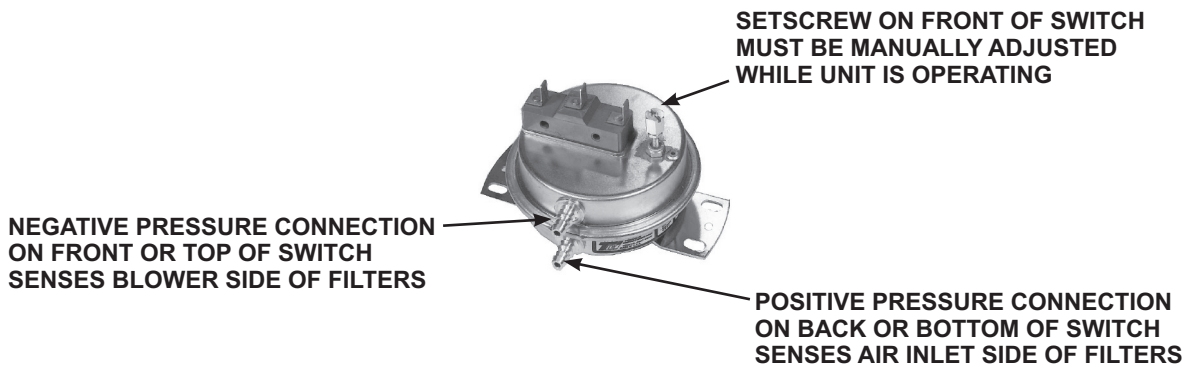

Figure 33. Dirty Filter Switch
1. With clean filters in place, blower doors closed, and blower operating, decrease pressure setting by adjusting setscrew on switch (see Figure 33) clockwise until indicator light is energized or setscrew is bottomed out.